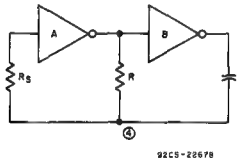
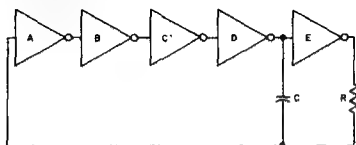

Fig. 4 - RC-oscillator with the addition of R_S .
Fig. 8 - CD4047A oscillator section
The negative features of the input protection circuit can be partially compensated for by the addition of a resistor, R_S , in series with the input protection circuit, as shown in Fig. 4. Although the input inverter A is still clamped at one diode drop above V_{DD} or one diode drop below V_{SS} , the waveform at point (4) is allowed to swing well above V_{DD} and below V_{SS} . The larger swing reduces the dependency of transfer-voltage variations upon stability; the variable characteristics of the input protection circuit and their effect upon stability are greatly reduced. An analysis of this circuit is presented in
The RCA-CD4047A is an integrated RC oscillator that eliminates most of the disadvantages of the discrete circuits previously discussed. The primary reason for this improved performance is the special input-protection circuit which allows the capacitor charging waveform to swing above V_{DD} and below V_{SS} without the need for an external resistor. This circuit, shown in Fig. 8, has the same time period and stability as the circuit in Fig. 4 for the case where the value of R_S is infinite. However, a resistor is eliminated, as well as the disadvantages of a time constant caused by the resistor.
An additional advantage of the CD4047A is a reduction in power dissipation as compared to the discrete multivibrators discussed previously. Inverter A in Fig. 8 is designed with high-impedance components that limit power dissipation during the time that the inverter operates in the middle of its transfer region. Four additional inverters are used to gradually shift from a very-high-impedance inverter at the input to a very-low-impedance driver in series with the external timing resistor. Calculations for power dissipation and a comparison of P_{diss} for the CD4047A and a discrete oscillator are presented in Appendix D; the result is